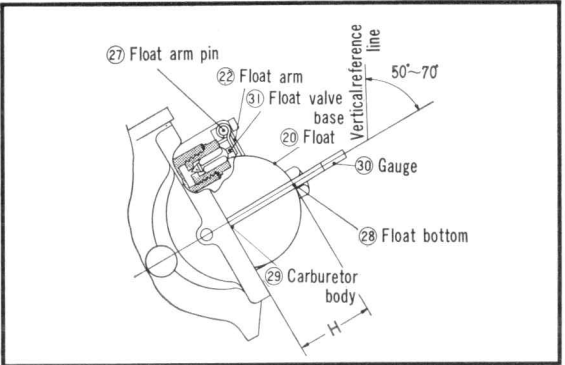

Figure 3-111. Fuel level adjustment
It is difficult to directly measure the fuel level, therefore, the fuel is determined by measuring the height (H) of the float. (Fig. 3-111, 3-112)
(1) Position the carburetor as shown in Fig. 3.111 with the float arm pin ②⑦ toward the top and the float ②⑩ at the bottom and tilt the carburetor to the point where the float arm ②② is about to break contact with the float valve base. This should occur when the carburetor is tilted approximately 70° or at any point between 50° to 70°. That is, the float arm should be at a point where the base of the valve is not compressed.
(2) In this position, the float bottom ②⑧ is measured from the carburetor body ②⑨ with the gauge ③⑩ to determine the height (H). The tolerance of the float position is 1mm (0.040 in) both ways. In other words, the gauge should not press the float more than 1mm, nor should there be clearance greater than 1mm between the gauge and the float. Care should be excersized in making the measurement since the base of the valve is spring loaded and can be compressed into the valve in which case, the true closing point of the valve cannot be determined.